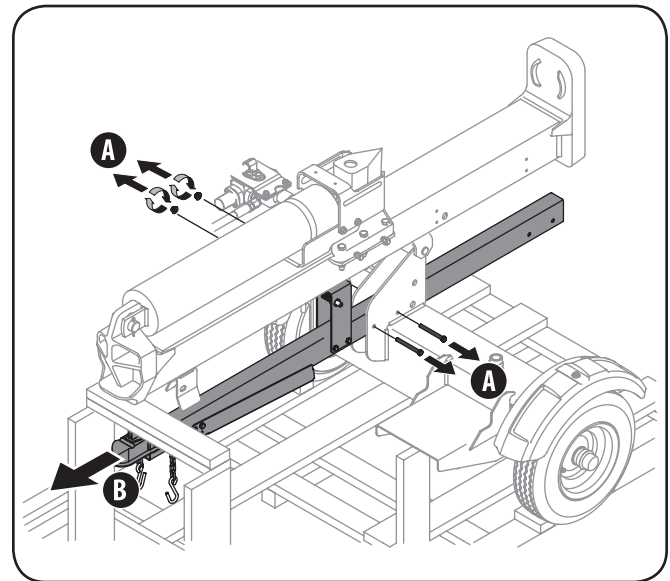
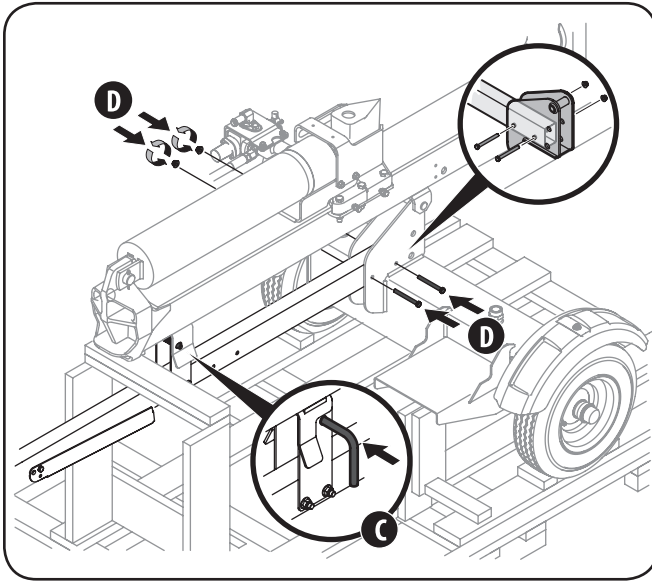

Figure 3-2
Figure 3-3
For shipping purposes, the tongue tube is secured to the log splitter frame near its center. To reposition it, refer to Figure 3-2 and Figure 3-3 and proceed as follows:
3. Pull the beam lock outward, line it up with the hole in the beam bracket and release the beam lock. See Figure 3-3.
4. Fasten the tongue tube to the frame by reinstalling the two three-inch hex screws removed earlier and tightly securing with the two flange lock nuts. See Figure 3-3.